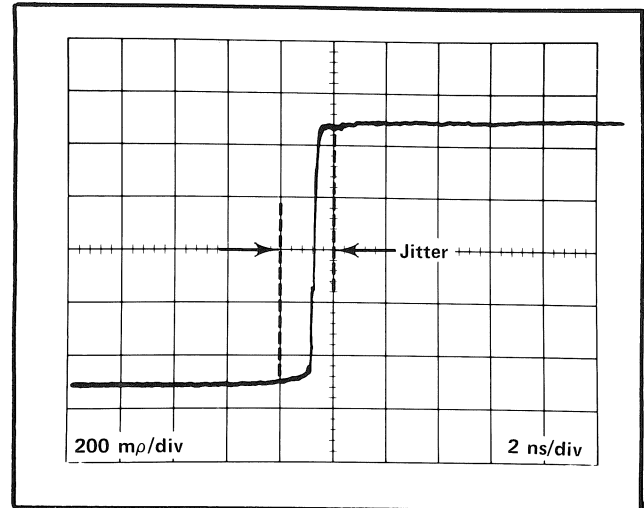

Fig. 5-7. System jitter measurement (Step 15, first part).
c. Adjust the TIME-DISTANCE control to display the pulse edge and vertically center the step (see Fig. 5-7).